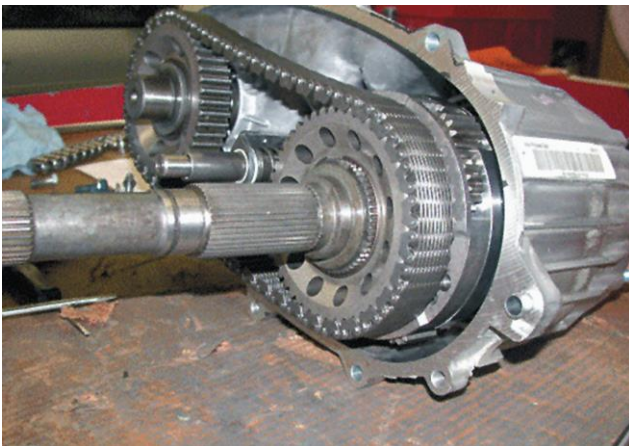

Figure 7. Inspect the drive chain and sprockets.
- Chain wear check, shaft inspection. Figure 7.